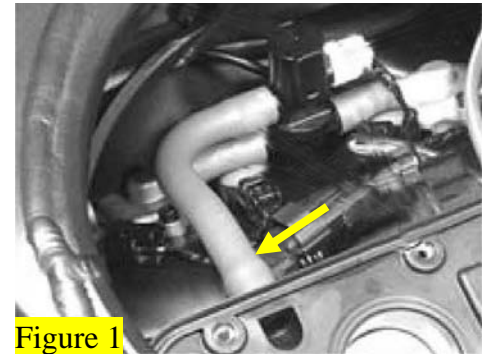

Figure 1
2. PAIR valve hose location is under the air box on the air box holder. See figure 1.